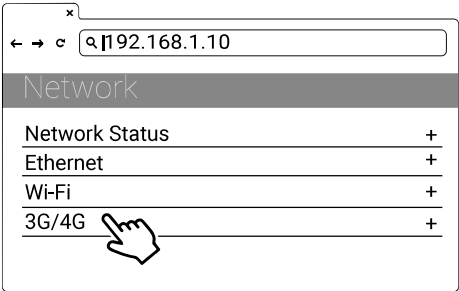

Figure 4-9. Network Information
- 4) Select: SET | Network | 3G/4G. Refer to the following figure 4-9.